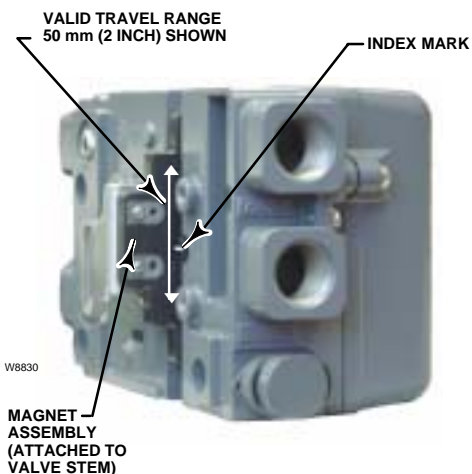

Figure 2-2. Travel Range
The linear magnet arrays have a valid travel range indicated by arrows molded into the piece. This means that the hall sensor (on the back of the DVC2000 housing) has to remain within this range throughout the entire valve travel. See figure 2-2.
8. Check for clearance between the magnet assembly and the DVC2000 feedback slot. The magnet assembly should be positioned such that the index mark in the feedback slot of the DVC2000 housing is between the valid range on the magnet assembly throughout the range of travel. See figure 2-2.
10. Check for clearance between the magnet assembly and the DVC2000 feedback slot. The magnet assembly should be positioned such that the index mark in the feedback slot of the DVC2000 housing is between the valid range on the magnet assembly throughout the range of travel. See figure 2-2.
8. Check for clearance between the magnet assembly and the DVC2000 feedback slot. The magnet assembly should be positioned such that the index mark on the pole pieces (back of the positioner housing) is between the valid range on the magnet assembly throughout the range of travel. See figure 2-2.